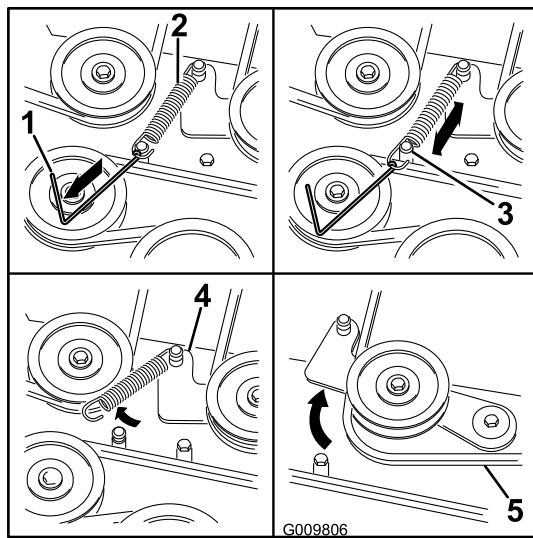

Figure 63
6. Using a spring removal tool (Toro part no. 92-5771), remove the idler spring from the deck post to remove tension on the idler pulley (Figure 63).
1. Install the new belt around the mower pulleys and the clutch pulley under the engine (Figure 63).
2. Using a spring removal tool (Toro part no. 92-5771), install the idler spring over the deck post and place tension on the idler pulley and mower belt (Figure 63).